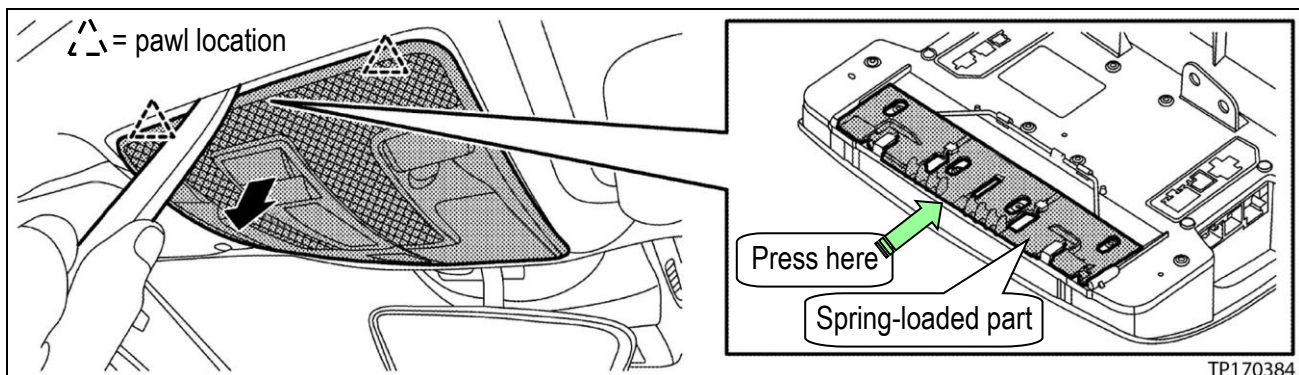

Figure 24
17. Unfasten the overhead control panel (see Figure 24 below).